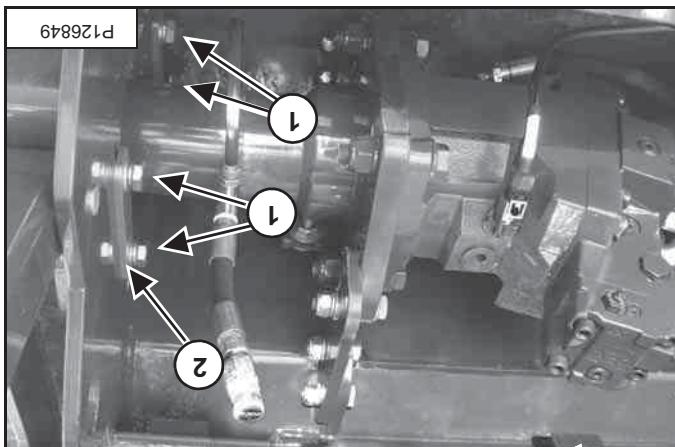

Figure 105
Loosen the four bolts (item 1) from the motor plate (item 2) [Figure 105].